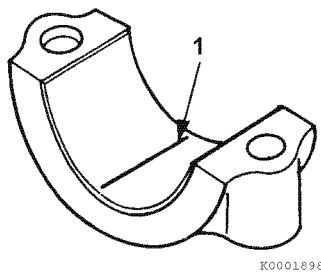

Figure 6-59
6. Place a piece of PLASTIGAGE® (1, **Figure 6-59**) along the full width of the bearing insert.